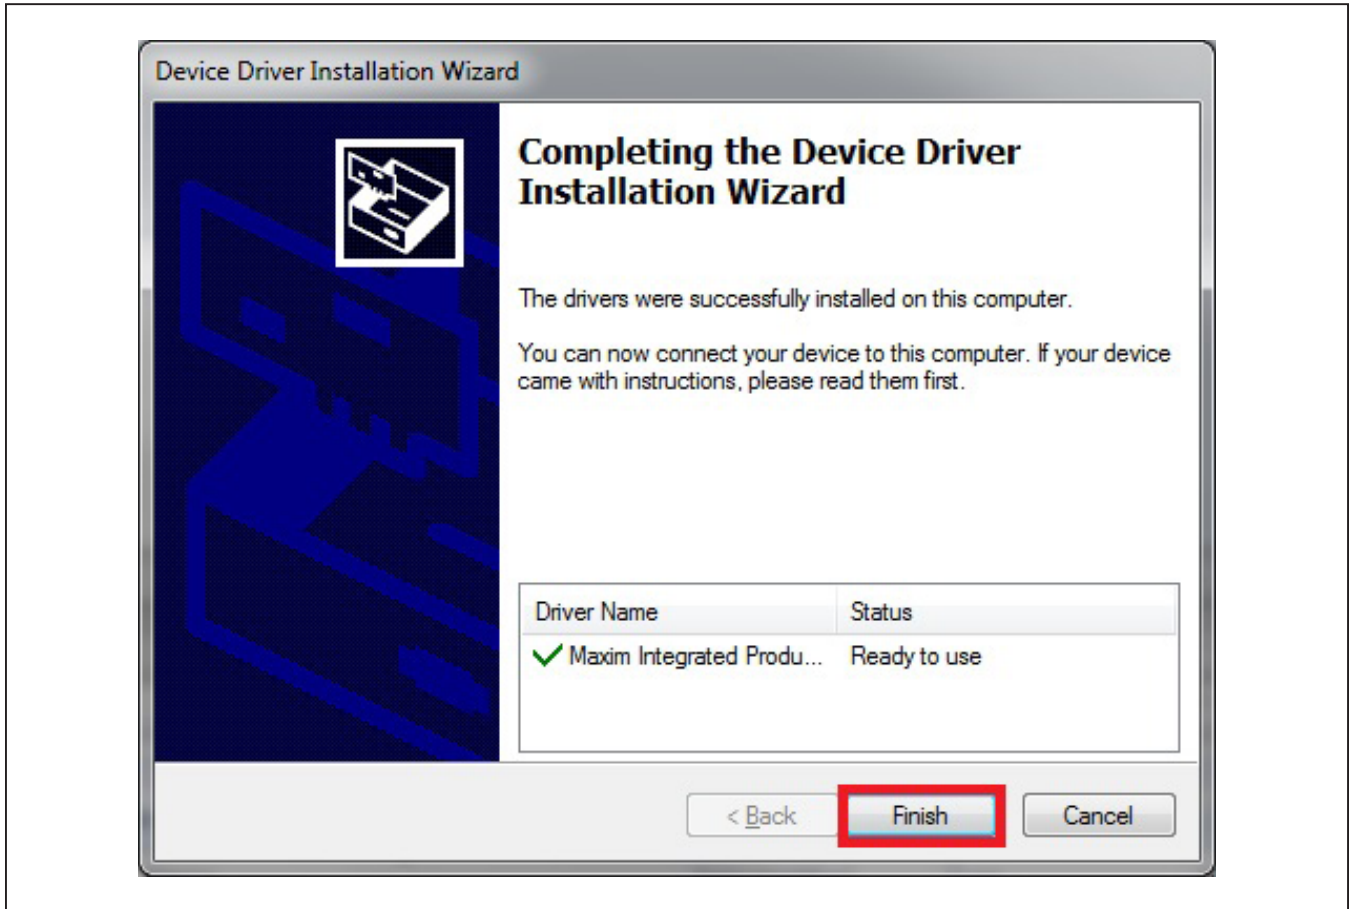

Figure 7. Device Driver Installation Finished
8) Click on **Finish** to close the final window and confirm the driver is installed correctly (Figure 7).